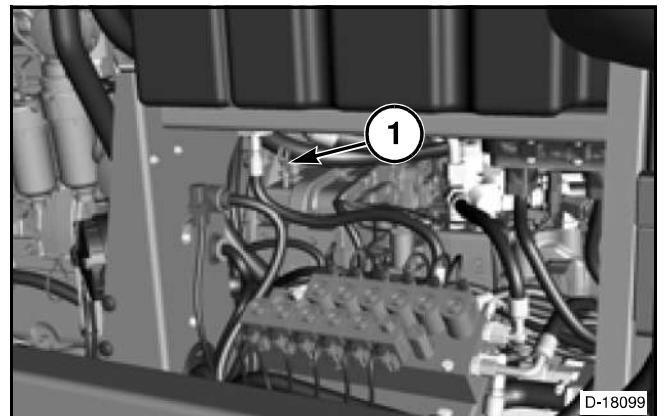

FIG. 11
FIG. 11: Check the pump drive gearbox oil level before starting the engine each day. Make sure the oil level is always between the add and full marks on the dipstick (1). After the engine is started, the oil level will drop slightly as oil is moved. For this reason, always check oil level and add oil before starting the engine.